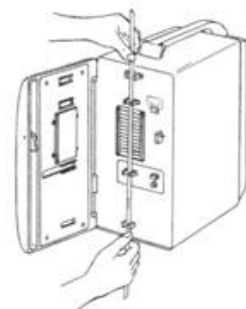

Fig. 7
- 7) Open the door and press clamp button, then put infusion tube into "bubble testing", "Tube pincher", "tube clamp" and "tube guidepost", the tube clamp will be automatically closed while the door is closed. (See figure 7)